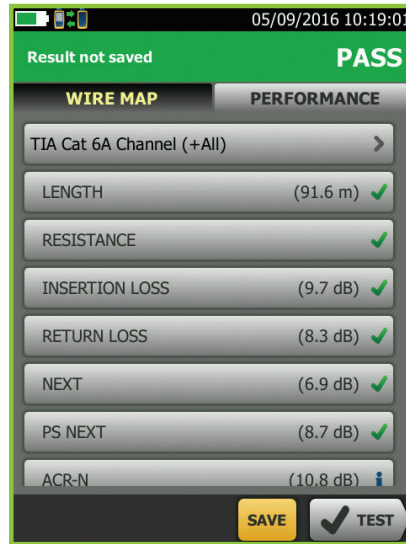

Figure 5
- Cabling and connectivity capability aligns with TIA, ISO, and IEC standards (Figure 5)